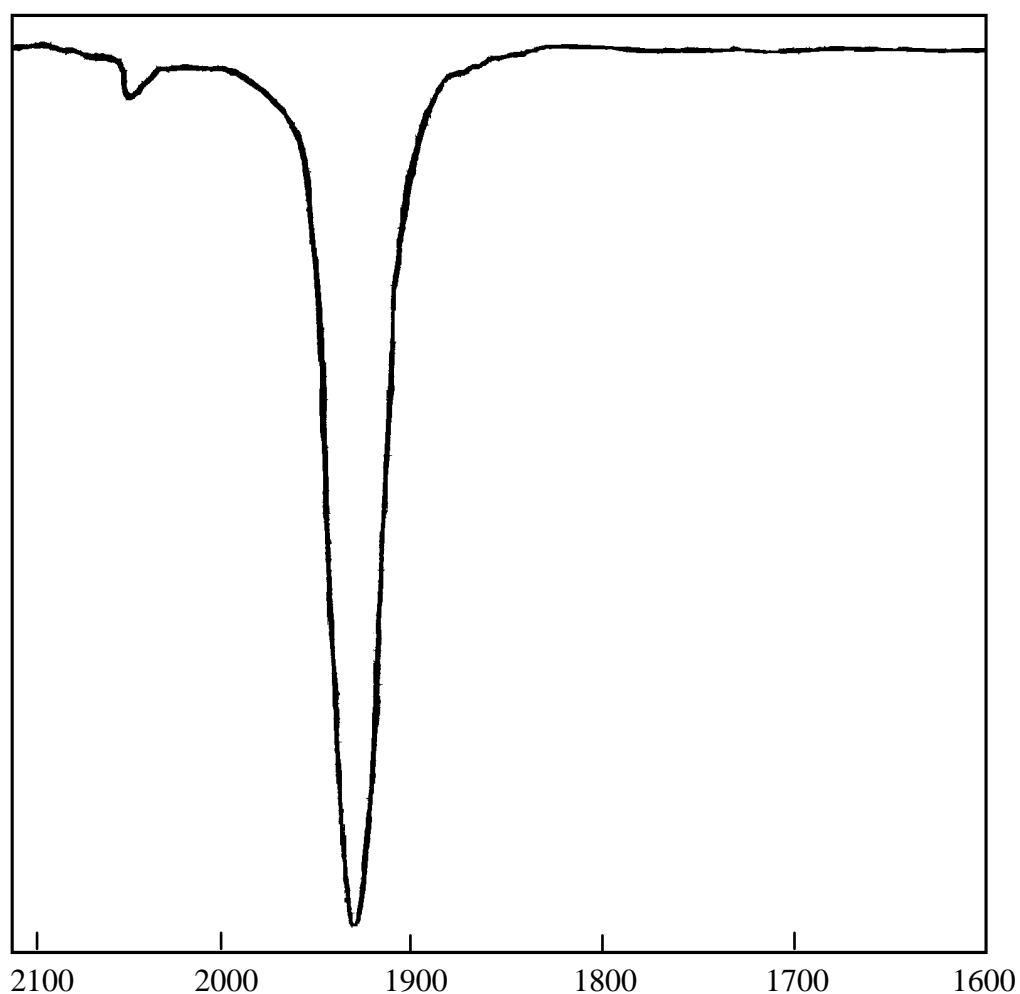

Figure 3.2 The IR spectrum of $[\text{Mo}(\text{CO})_4\{\text{P}(\text{OPh})_3\}_2]$ in CHCl_3 (units are cm^{-1}).
N.B. $[\text{Mo}(\text{CO})_6]$ reacts with $\text{P}(\text{OPh})_3$ at $100\text{-}120^\circ\text{C}$ (in a high boiling solvent) to give both isomers of $[\text{Mo}(\text{CO})_4\{\text{P}(\text{OPh})_3\}_2]$. You will not carry out this reaction yourself; the IR carbonyl spectrum of the dominant (>90%) isomer is shown in Fig 3.2 (at the end of this experiment).